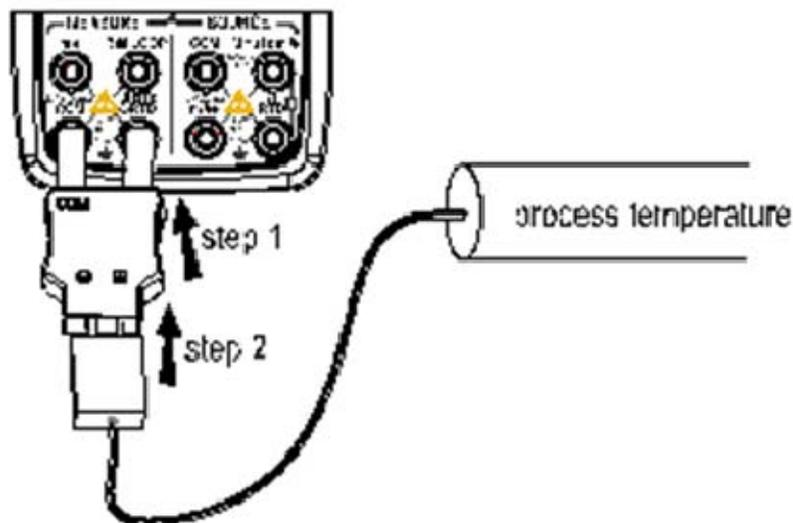

Figure 13 Measuring TC to the L terminal.
For thermocouple signal (Figure 13)
Step 3: Connect the thermocouple convertor to the jack under test as shown in Figure 13.The selected function and the measured value and unit shall be shown in the upper part of the LCD.